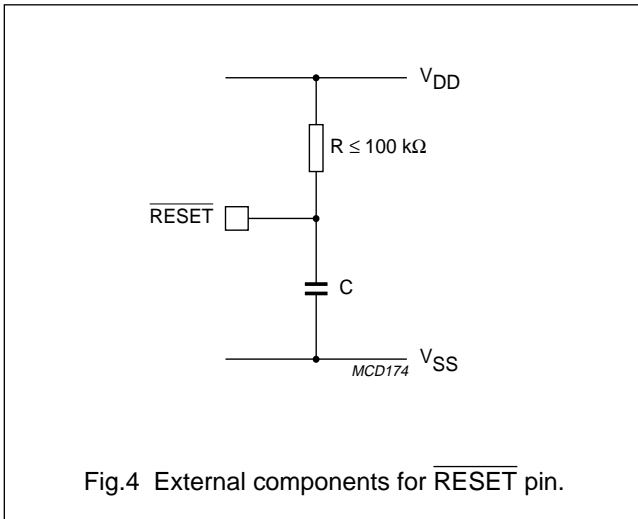

Fig.4 External components for $\overline{\text{RESET}}$ pin.
- If V_{DD} has a slow rise time, such that after the time period ($t_{Vref} + t_d$) has elapsed the supply voltage is still below the minimum operation voltage (V_{min}), external components are required (see Figs 4 and 7). To guarantee a correct reset operation, ensure that the time constant $RC \geq 8 \times t_{VDD}$.